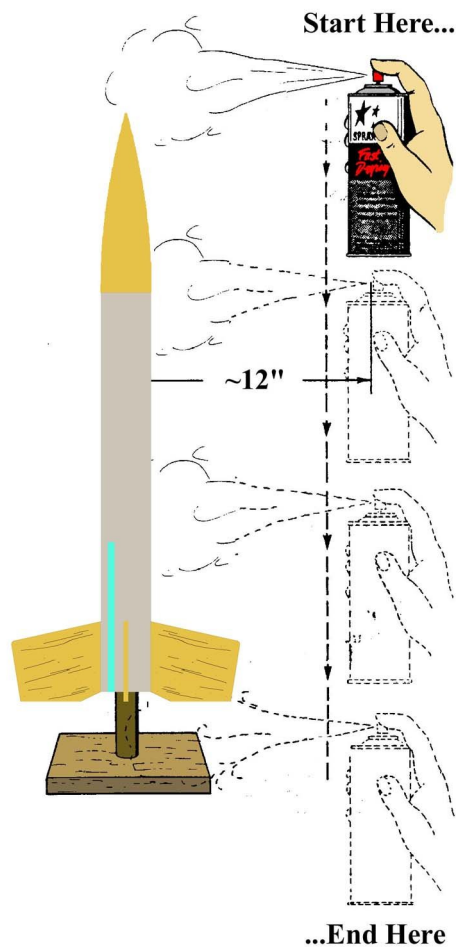

Figure 8
- **Step 14** The illustration in Figure 8 shows the correct way to spray your model, regardless of the equipment used. Always spray the model from top- to-bottom, never from side-to-side, or bottom-to-top. Use the empty CD-R spindle, or a length of 1/2" hardwood dowel with another expended 18mm casing pressed onto one end as a cheap holding spike. Maintain a distance of about 12" between the tip of the spray and the model. This step applies to primers, paints, and final gloss coats.